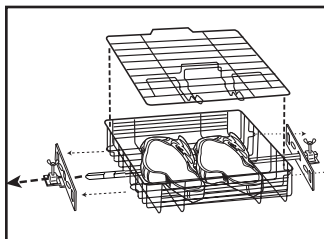

Figure 8
6. Carefully slide Rotisserie Bar (pointed end first) through square hole in End Bracket, through Basket, and through opposite End Bracket. See Figure 8.